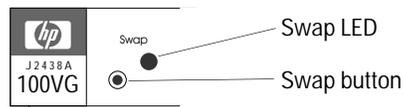

Figure 6. Swap Button and LED
3. If the Swap LED on the interface card you are removing is not lit (see figure 6), press the adjacent Swap button, and hold it until the Swap LED turns on (about 1-5 seconds).